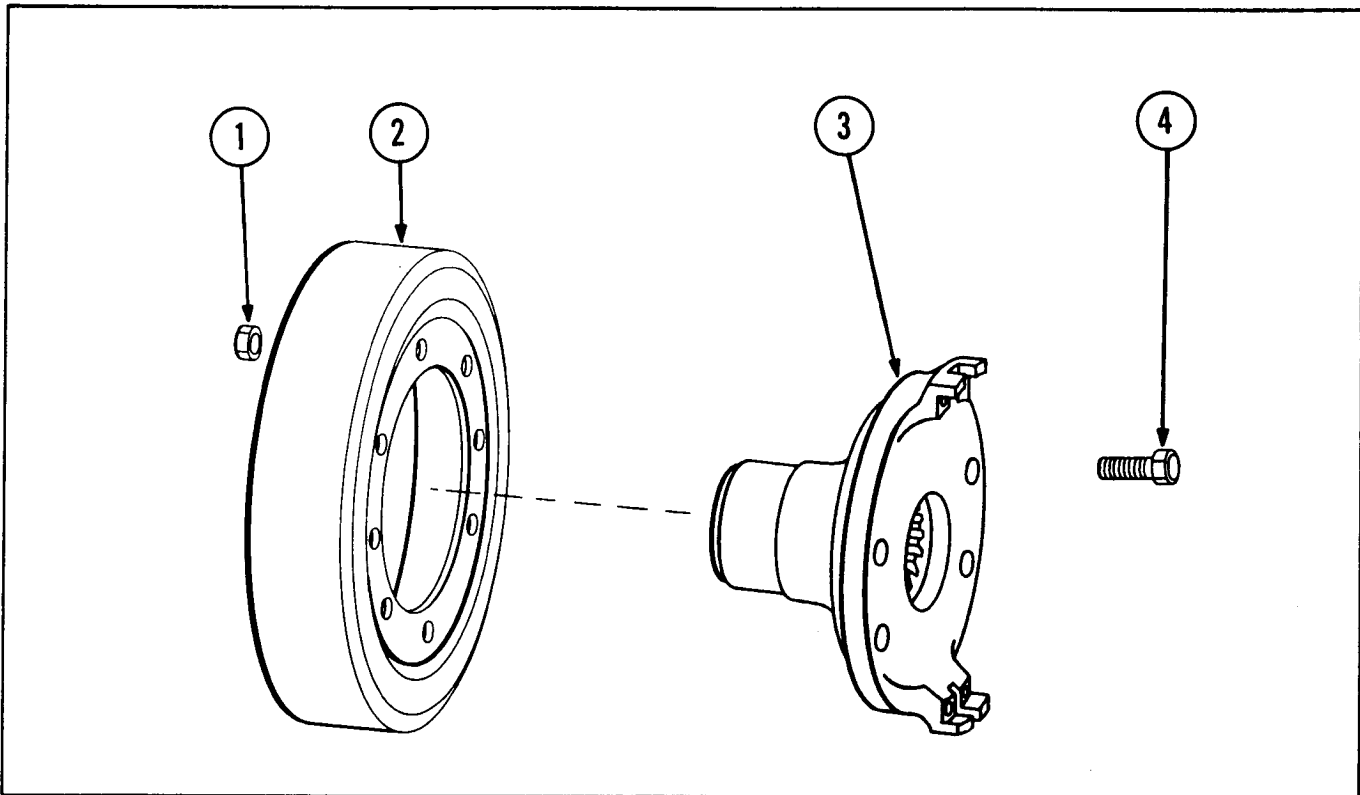

Figure 3-66
1. Do not install shims (2, Fig. 3-66) during installation of bearing retainer (20) on transmission housing (16). Use only two cap screws, 180° apart, to secure retainer. Do not tighten cap screws at this time.
2. Follow procedure described in general text for installation of opposite bearing retainer (5). Tighten all cap screws securing this retainer to the recommended torque (refer to "SPECIAL TORQUES"). Do not install the output yoke (9) at this time.